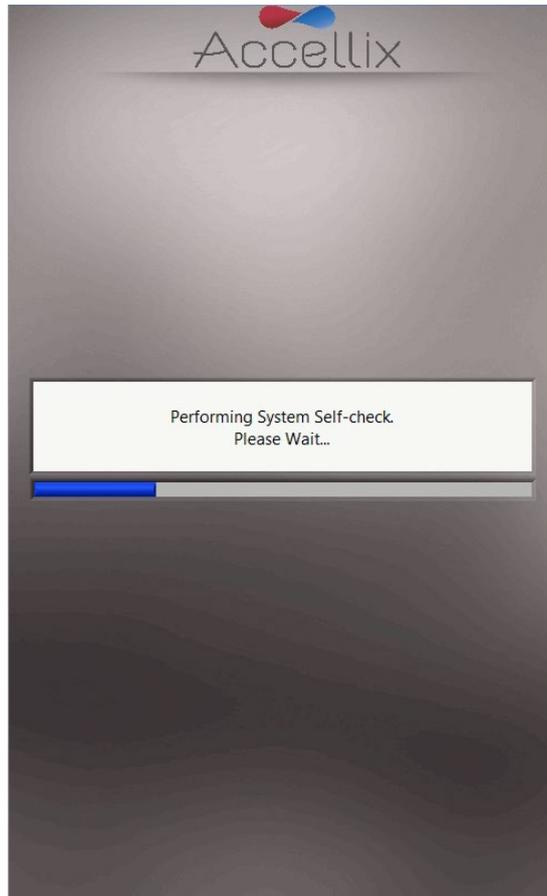

Figure 13: 'System Self-check' screen
1. Turn on the instrument by switching the **Power switch** on the rear panel of the instrument to the 'ON' position. While the instrument boots up, the display will inform the user that **System Self-check** is being performed (Figure 13):